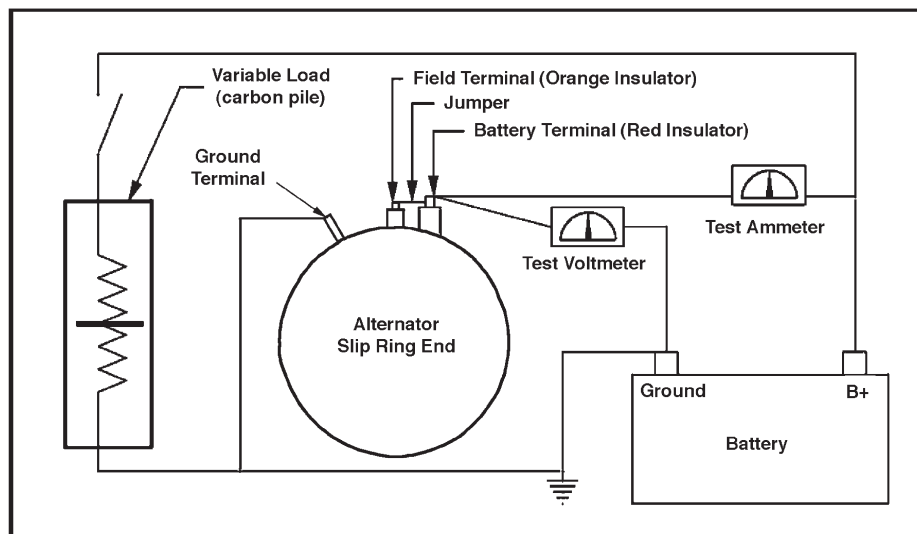

Figure 5.1 - Typical Bench Testing Set Up.
- (1) Fabricate the test set up as shown in Figure 5.1.
- (2) This consists of a battery (24 volt DC, 150 ah min. or 12 volt DC, 40 ah min), common carbon pile, test voltmeter (0-28 VDC), test ammeter (0-100 amp), and an appropriate length of jumper wire.
- (3) Use an Optical tachometer to observe RPM (per manufacturers instruction).
- (4) Battery (-NEG) and the alternator case must share a common ground.